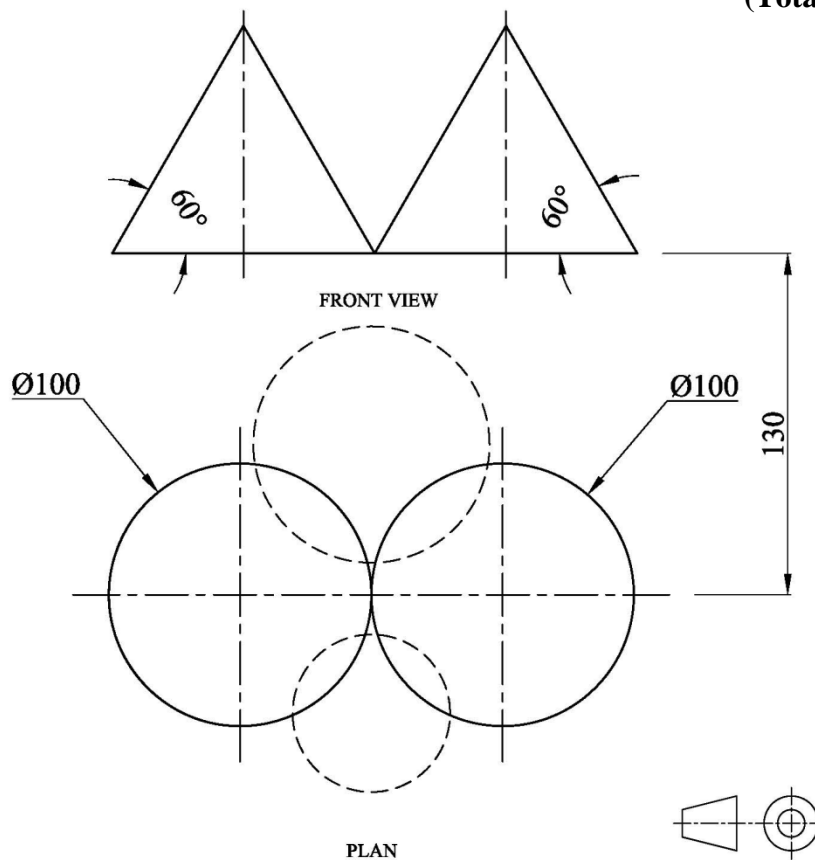

Figure 3b
- a) the two right cones shown in Figure 3b; (2)
- b) a 90 mm diameter sphere resting on the horizontal plane in mutual contact with the two cones situated behind the cones; (4)
- c) a 60 mm diameter sphere resting on the horizontal plane in mutual contact with the two cones situated in front of the cones, visible in the front view; (4)
- d) Show all construction, hidden detail and points of contact. (3)